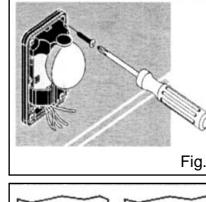

Fig.6
- Fix the cell using the screws provided (fig. 6)